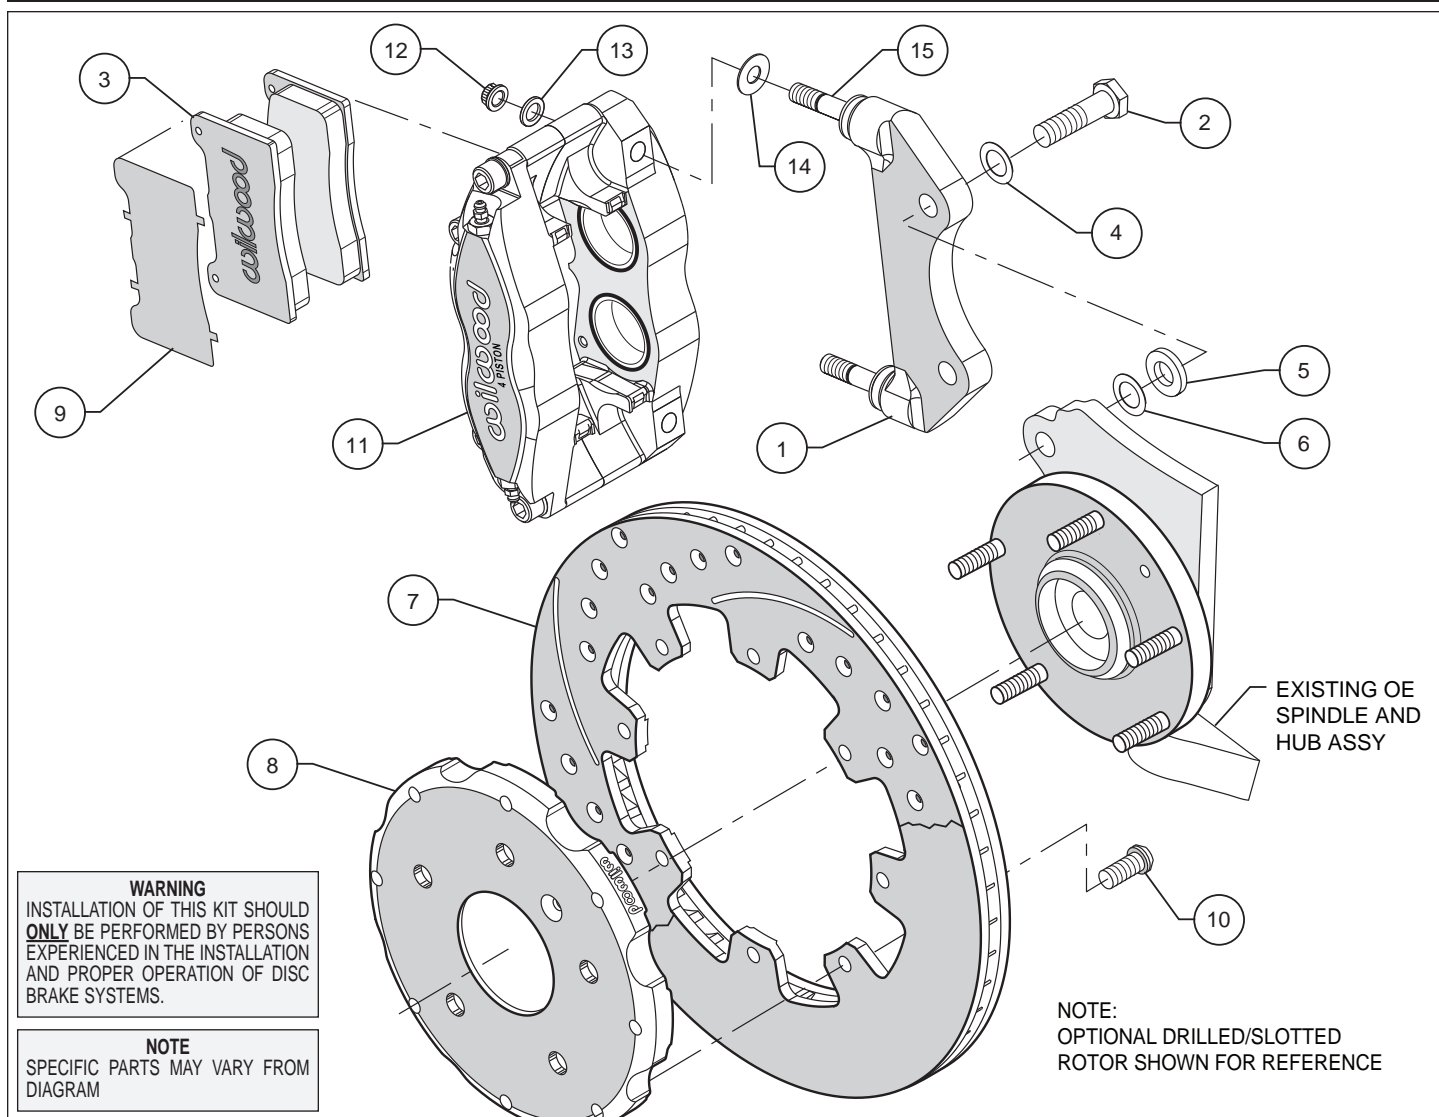

Figure 1. Typical Installation Configuration
- The caliper mounting bracket assembly (1) should be installed first with clean, dry threads on the mounting bolts. Install the bracket from the rear side of the spindle by sliding bolts (2) through washer (4). Place spacer (5), and washer (6) between the bracket (1) and the backside of the spindle (see Figure 1). The bracket must tighten squarely against the side of the spindle body. Inspect for interference from casting irregularities, machining ridges, burrs, etc. Use one thin shim (6) between the spacer and spindle during initial trial fitting.
- With the larger I.D. side of the rotor (7) facing away from the hat (8), attach rotor (7) to hat (8) using bolts (10) as shown in Figure 1. Using an alternating sequence, remove bolts one at a time, apply red *Loctite*® 271 to the threads, and torque to 25 ft-lb.
- NOTE:** Please reference the caution statement at the beginning of the assembly instructions. Install one shim (14) over each pre-installed stud (15) on the radial mount bracket (1). Slide the caliper (11) in place over the studs and rotors and install the washer (13) and lock nut (12) to hold the caliper in place. Snug the lock nuts (12) and check that the rotor (7) is centered in the caliper (11). Add or subtract .015" shims (6) as necessary between the spacer and the spindle to center the caliper (7).
- Remove the caliper quick-clip pad retainer from the caliper. Remove the protective material from the adhesive side of the anti-squeal shims (9) and place against the backing plate side of the brake pads (3) utilizing the contour of the backing plate as a guide. Secure material to backing plate by bending the four tabs over the edge of the backing plate. Slide the brake pads (3) with the shims into place. They should install easily without interference. Check that the brake pads are approximately .05" above the outside diameter of the rotor. Add or subtract shims (14) between the caliper and mount bracket to gain the proper alignment. Reinstall the quick-clip pad retainer.
- Once all clearances have been checked, remove the wheel, caliper, hat, and rotor from the spindle and hub. Secure the caliper mounting bracket (1) to the spindle using red *Loctite*® 271. Torque the bolts to 47 ft-lbs. Reinstall the hat and rotor assembly and again use several lug nuts to hold it in place. Lubricate caliper mounting studs and nuts with lightweight oil, reinstall the caliper, torque the caliper nuts (12) to 30 ft-lb.